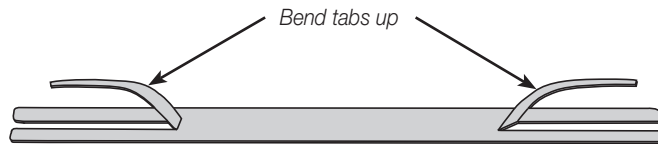

fig. 8
1. Bend tabs to provide a 1/2" dead air space between exhaust pipe and heat shield (Fig. 8).